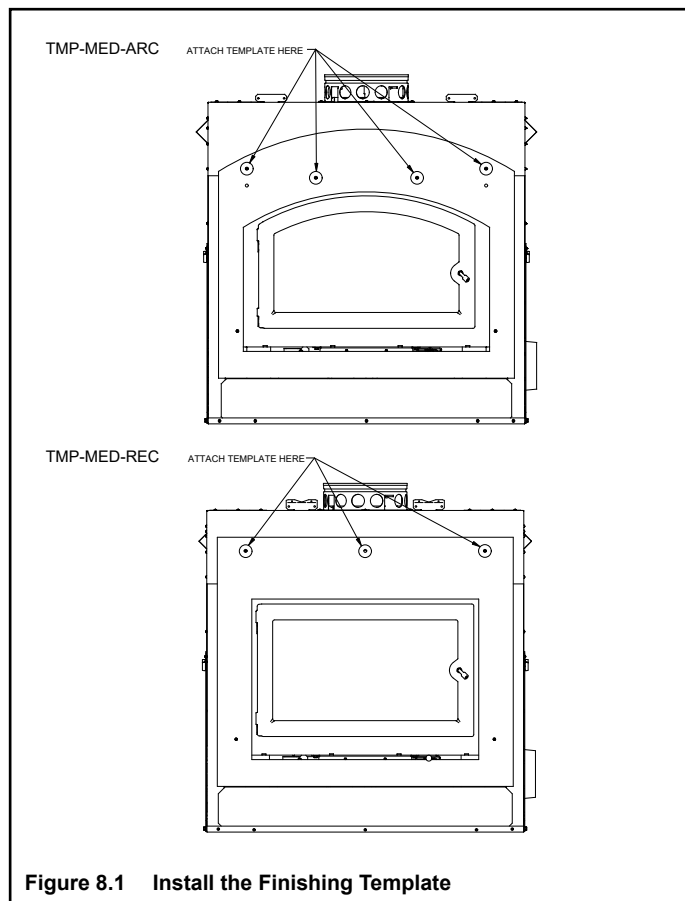

Figure 8.1 Install the Finishing Template
- Install the template on the front of the fireplace (Figure 8.1) with screws removed or provided.